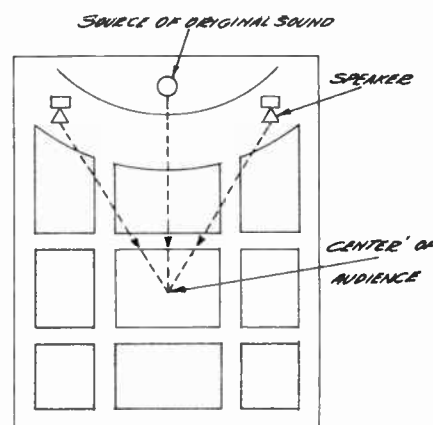

Figure 2. The speakers should be placed so that the majority of the listeners will hear the original and reinforced sound at the same instance.
The speaker location is selected with two objectives in mind: (1) to make the program sound natural to all present, and (2) to reduce the possibility of acoustical feedback. The loudspeakers should be placed so that sound originating from the actual source (be it a singer or a complete orchestra) and the sound emitted by the loudspeakers should reach the majority of the audience at the same instance. (Fig. 2) This is why two speakers are used in auditoriums and dance halls,